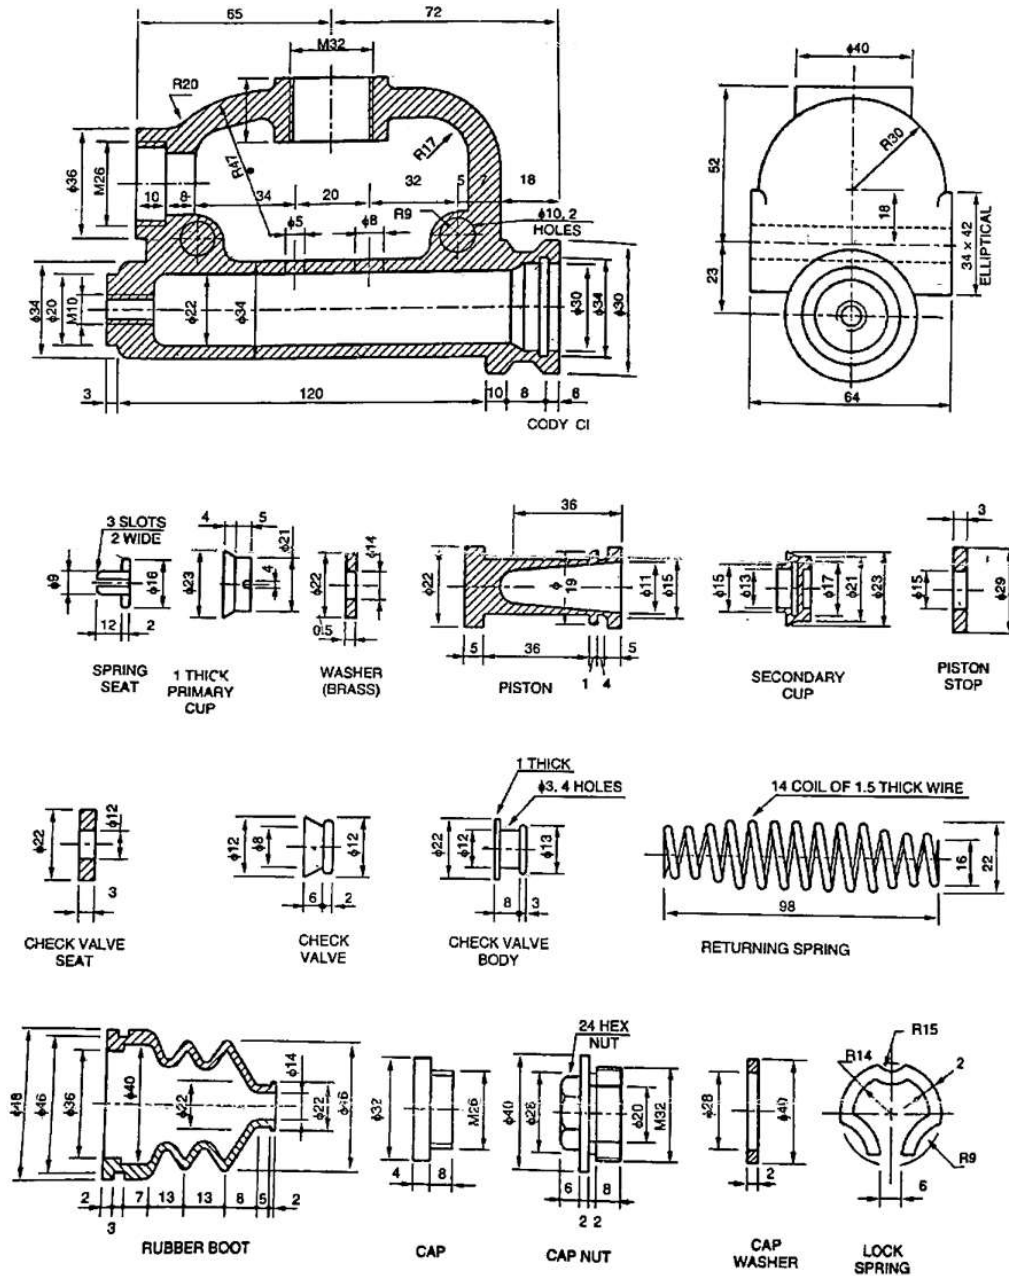

Figure 4.
7. Fig. 4 shows the details of master cylinder. Assemble all the parts and draw the following views of the master cylinder :